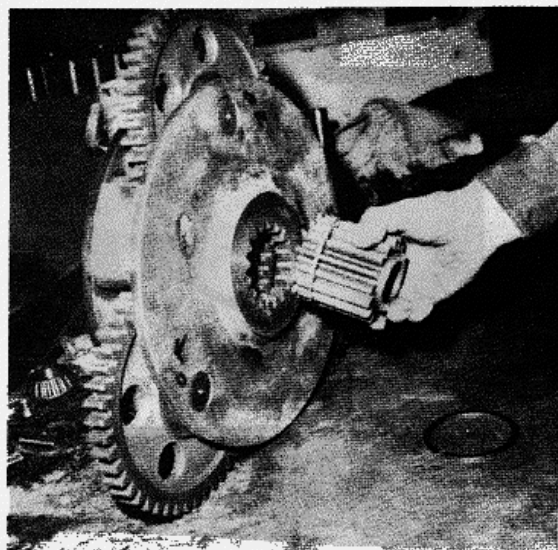

FIGURE 8-8
l. Inspect the interlocked sun gear for excessive wear on both of its thrust surfaces (one located at each end) and twisted or cracked splines or any other signs of impending failure. Remove if necessary by removing snap ring from inside of the carrier and lift out the gear (see figure 8-8).